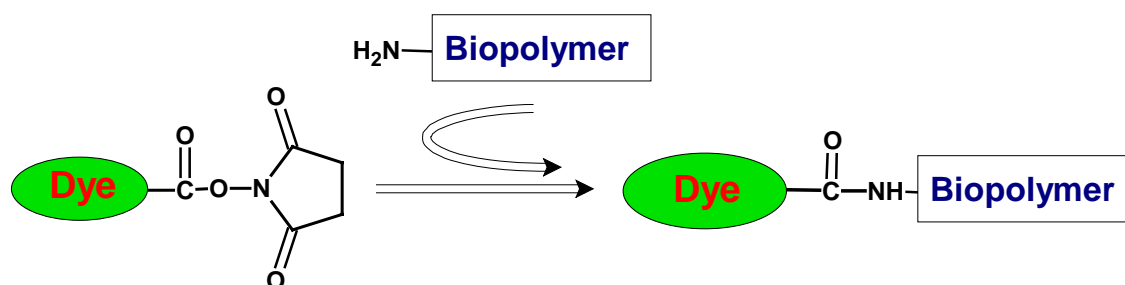

Figure 1. Labeling of an amino group (for instance, a lysine) on a biopolymer (i.e., a protein) with a succinimidyl ester of a dye.
AnaTag™ HiLyte Fluor™ 555 Protein Labeling Kit provides a convenient way to label proteins by using the succinimidyl ester (SE) reactive form of HiLyte Fluor™555. The succinimidyl ester shows good reactivity and selectivity with aliphatic amines of the protein and forms a carboxamide bond, which is identical to, and is as stable as the natural peptide bond (Figure 1). HiLyte Fluor™555-protein conjugates can sustain treatments during immunofluorescent staining, fluorescence *in situ* hybridization, flow cytometry and other biological applications without hydrolysis.